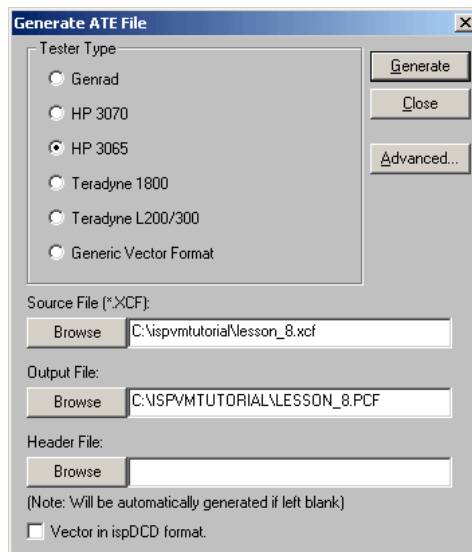

Figure 2-10. Generate ATE Dialog
1. Choose **Project** ⇒ **Generate ATE File** to open the Generate ATE File dialog (Figure 2-10).